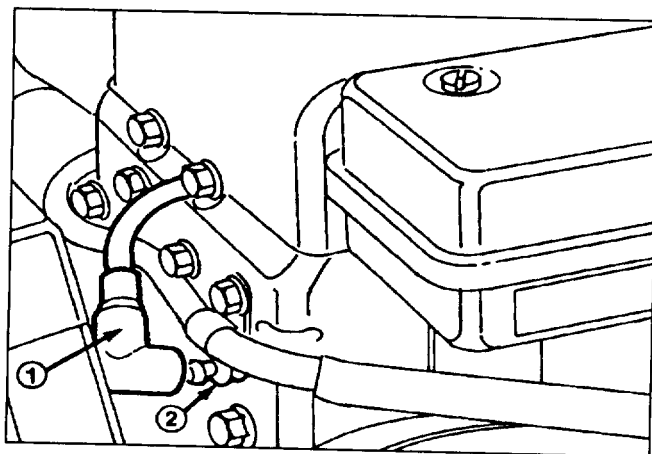

Figure 13
To prevent accidental starting of the engine, while performing maintenance, shut engine off and remove key from Ignition switch. Also, pull wire off spark plug (Fig. 13). Make sure wire does not contact plug accidentally.
1. Remove wire from spark plug (Fig. 13).